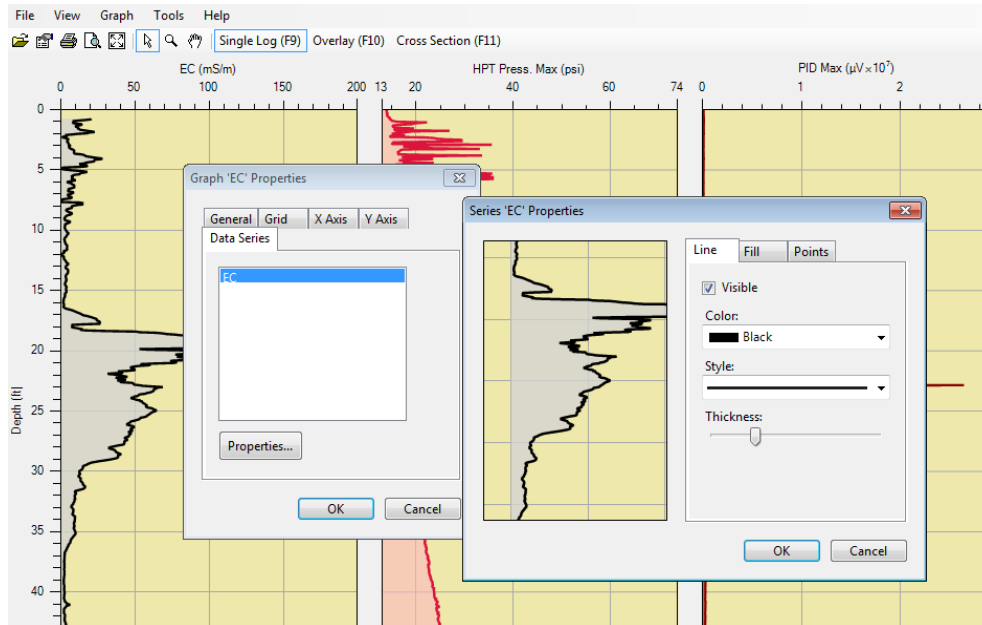

Figure 12: Changing Graph Properties
4. General Tab: Change *Background Color* and *X Axis Orientation* (Figure 12)
8. All graph properties (line weight, fill, color, and point style) of custom data sets can be adjusted in the same fashion as other data series (Figure 12).